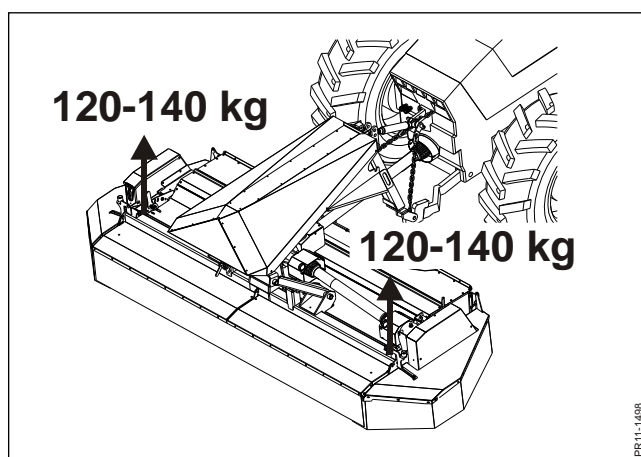

Fig. 3-9
**Fig. 3-9** The relief system of the machine must be adjusted so that the ground pressure from the cutting unit is suited for normal conditions. The weight in both sides must be approx. 120 – 140 kg when the machine is in basic position on plane ground.